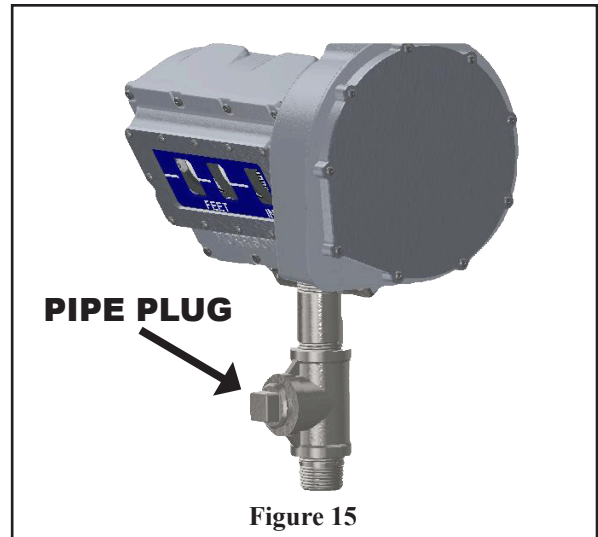

Figure 15
1. Remove the pipe plug and grab onto the cable (See Figure 15.)